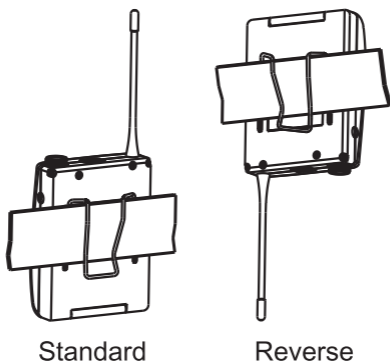

Fig.2
- ❸ Transmitting Antenna
- ❹ Housing
- ❺ LCD Panel
- ❻ SET button
- ❼ MODE button
- ❽ Power Switch
- ❾ ACT Sync Window
- ⑩ Battery Compartment
- ⑪ Battery Cover
- ⑫ Remote control mute connector
- ⑬ Reversible Belt Clip, Fig. 2
- ⑭ Battery Charging Contact. (Rechargeable)
- ⑮ Battery protection circuit reset button (ACT-70TC/52TC/32TC Rechargeable)